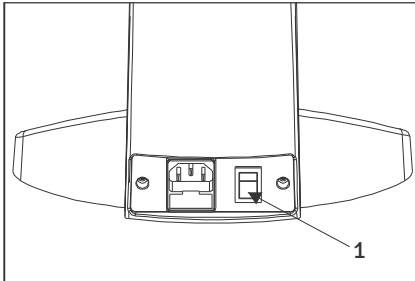

Fig. 15
1. Flip the main switch to "I" (ON) as shown in figure 15.